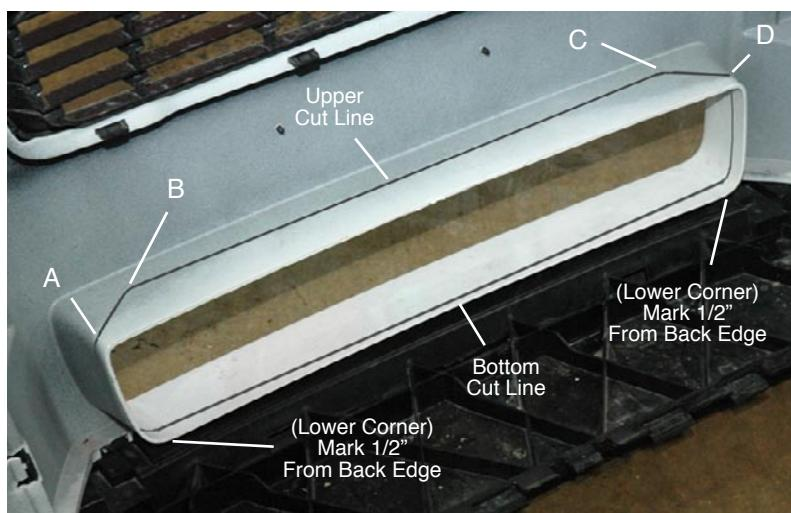

Figure 6.2
To provide adequate room for the new intercooler it is necessary to trim the back of the lower grill opening. For more aggressive cooling of the intercooler you may wish to use the optional trimming pattern shown in Step 6.3 (see Fig. 6.2).
If you are planning on running your car at track events or if you live in a hot climate you may wish to use a more aggressive trimming option for the grill opening. This option removes more material from the upper surface of the grill opening which allows more air to reach the upper portion of the intercooler core. This trimming pattern is shown in Figure 6.2.
- At each corner of top surface, points A and D in Figure 6.2, mark a line 1/2" from back edge.
- As shown by points B and C in Figure 6.2 make a mark 1 1/2" from back edge of upper surface and 1 1/2" from the outer edge of the upper surface. Repeat for both sides of upper surface.
- Using a straight edge, mark line connecting points A and B, B and C, C and D, as shown in Figure 6.2..